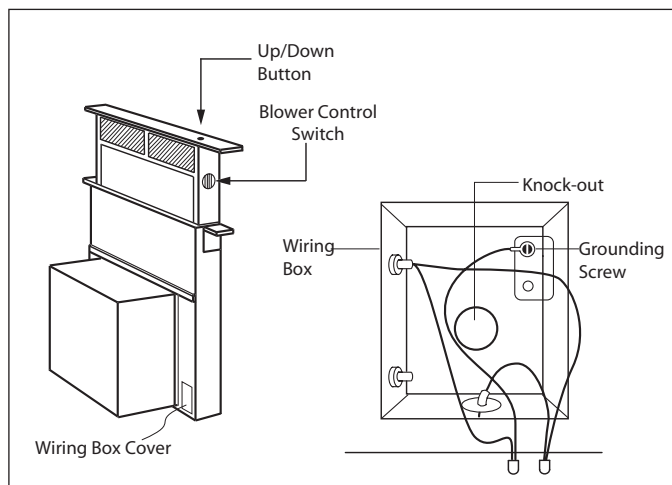

FIG.11
- 12) Turn the power supply on. Push and hold the Up/Down button momentarily. The downdraft will rise out of the countertop and stop in the fully extended position. Position the top strip over the top of the downdraft, lining up the fixing hooks and the hole for the push button. Snap into place. Turn the blower on. The blower control switch is located on the right hand side of the plenum as indicated in Fig. 11. If the blower does not work, refer to section entitled "If The Blower Does Not Operate" located on page 11"